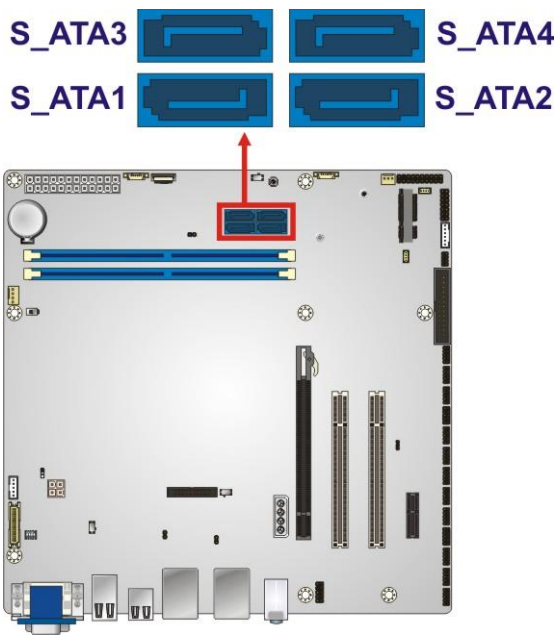

Figure 3-28: SATA 6Gb/s Drive Connector Locations
- CN Location:** See Figure 3-28